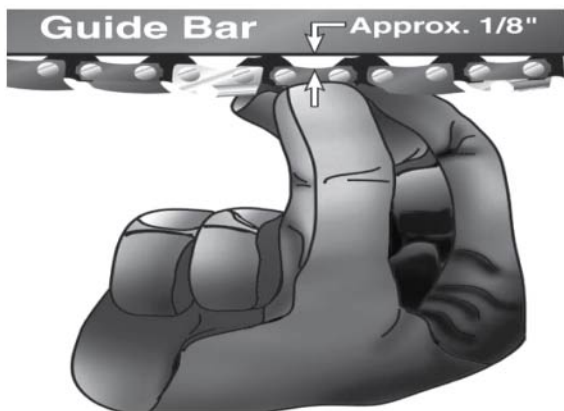

Fig.8
3. Pull chain with light force 1/8" away from bottom of guide bar and release (See Fig 8). If chain lightly snaps back into place, tension is correct. A slight sag (1/16" or less) between chain and bottom of guide bar is acceptable.